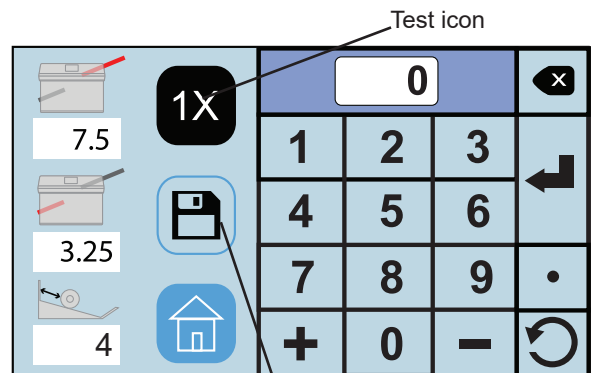

Fig. 18
Press the enter key  to enter the position. The white box under the icon will show the position entered. (Fig. 18).
4. With forms loaded in the feeder press the test icon  (Fig. 18) to check that the fold settings are correct. To adjust the settings repeat steps 1 - 3.